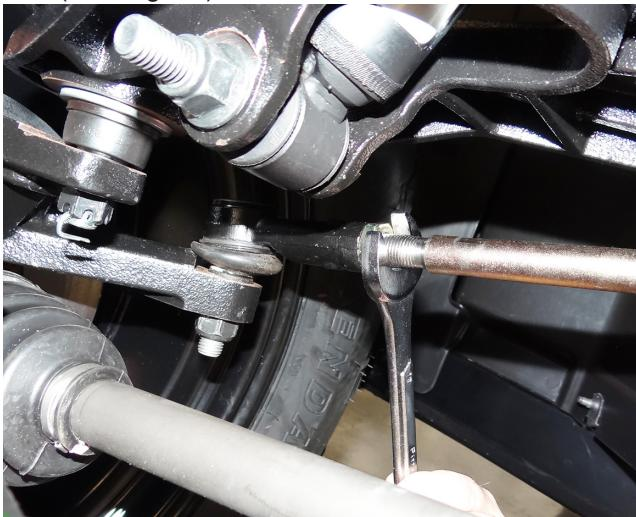

**Fig. 30 Wheel Alignment Front of Front Tires**
2. Remove the bolt (17) and nut (7) that secure the upper steering shaft (10) to the EPAS unit (1) (Ref. Fig. 30) (Ref. Fig. 22).